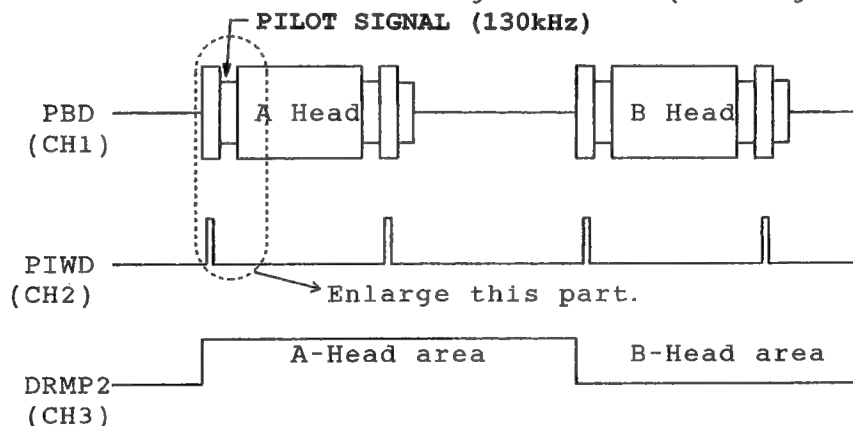

Fig. 15
2. Adjust VR601 so that the rising edge of signal PIWD stops at the point where 130KHz Pilot signal start. (See Fig.15 and 16)
You use oscilloscope without delay, make rough adjustment as shown in the Fig.15.